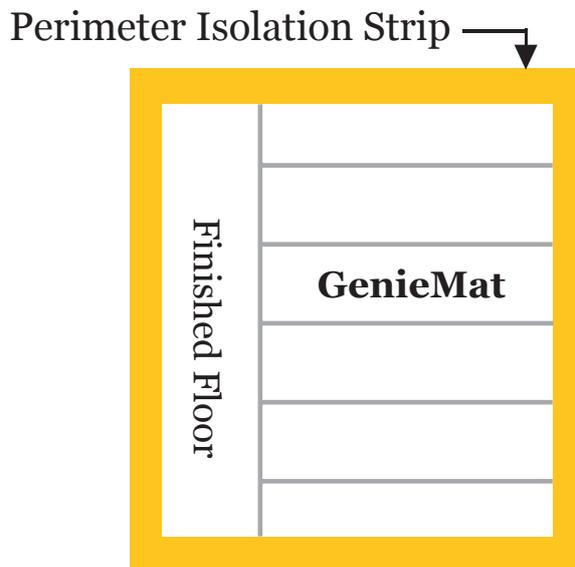

Figure 2
- ii. Unroll and place **GenieMat** underlayment perpendicular to subsequent installation direction of finished floor (refer to **Figure 2**).